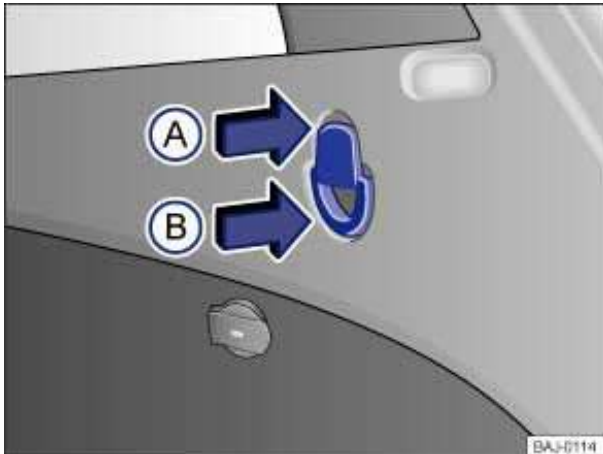

Fig. 105 In the luggage compartment: Shopping bag hooks.
- Push in the direction of the arrow ⇒ fig. 105 \(B\). The shopping bag hook folds out.